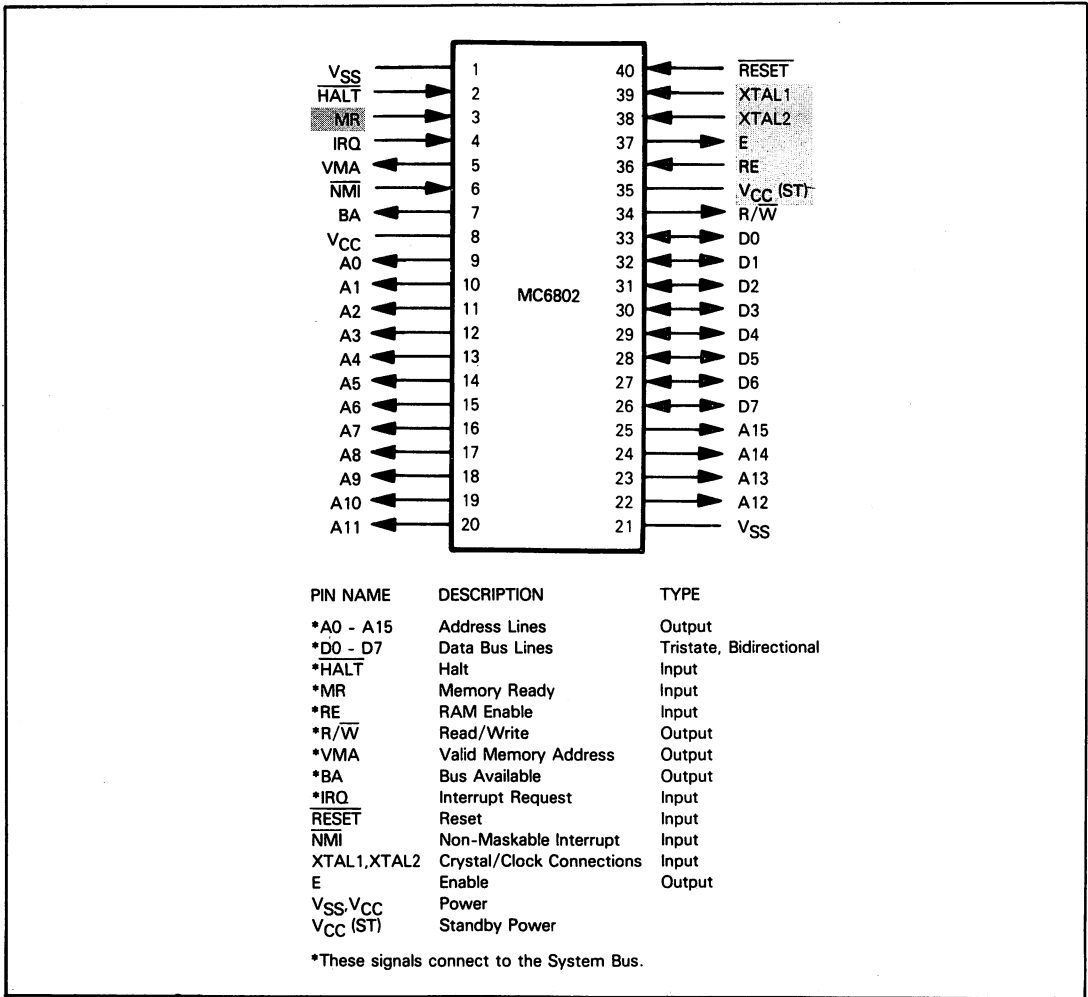

Figure 9-14. MC6802 CPU Signals and Pin Assignments
**MC6802 CPU pins and signals are illustrated in Figure 9-14. Pins and signals which differ from the MC6800 illustrated in Figure 9-2 are shaded. We will examine these new signals only.**